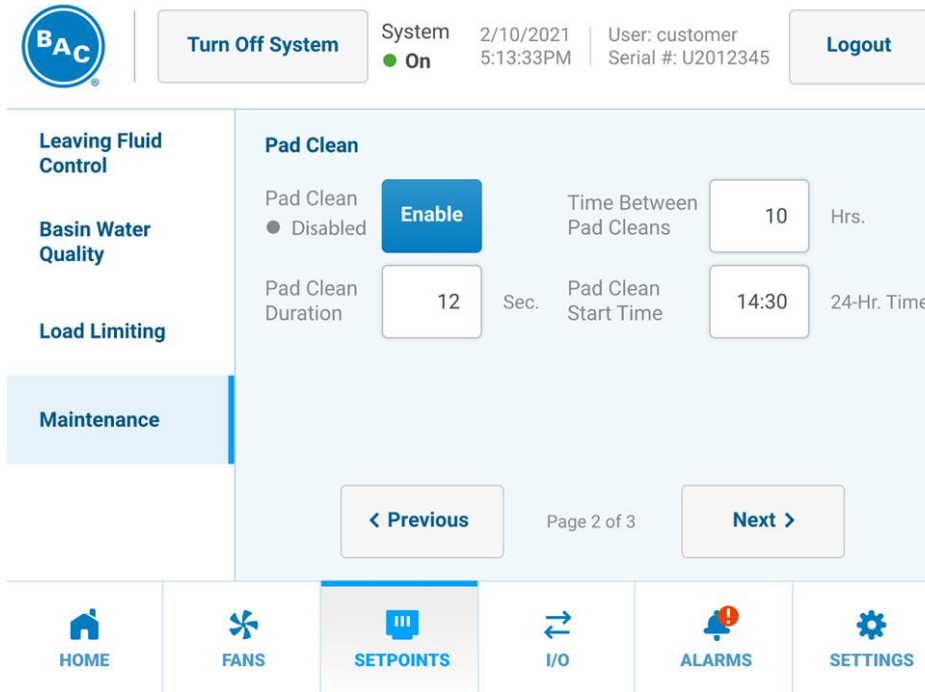

Figure 50. Setpoints Menu, Maintenance Page 2 of 3
- Pad Clean maintenance mode shown in **Figure 50** with parameters listed in **Table 18**.